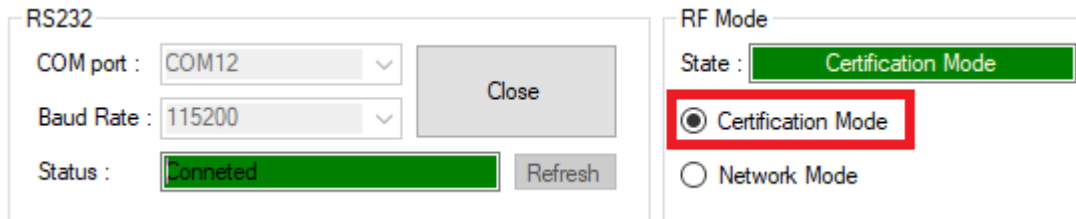

Figure 7. Configuring certification mode
1. Open the **Settings** tab, see Figure 7.